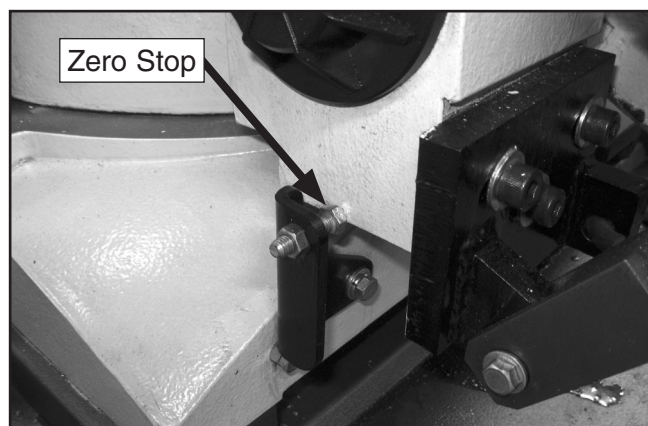

Figure 61. Zero degree swivel stop.
4. Observe the scale, and if the headstock is not at 0°, adjust the zero stop (**Figure 61**) so it will line up with the mark.